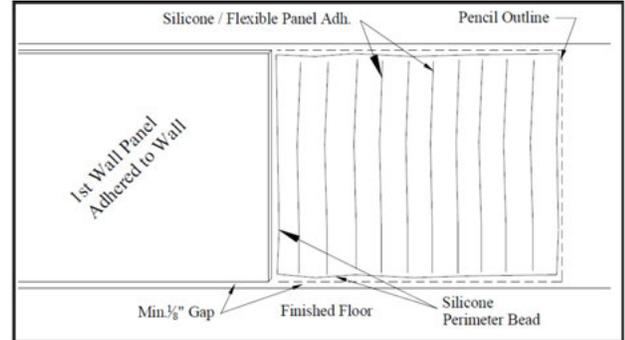

Figure 30A
- After sizing the second panel, dry fit and mark outline of second panel on wall. (Figure 30A)